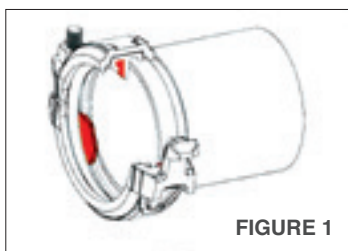
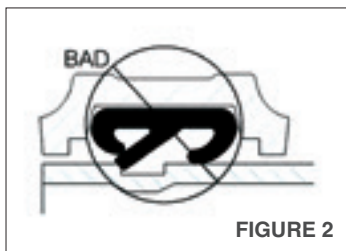

FIGURE 1
FIGURE 2
Step 3. Push the gasket/coupling onto one end of the pipe until the positioning-plate of the gasket is in contact with the end of the pipe (SEE FIGURE 1) the red highlight is the positioning-plate. The pipe end should not cross through the positioning-plate of the gasket. (SEE FIGURE 2).
Step 3. Push the gasket/coupling onto one end of the pipe until the positioning-plate of the gasket is in contact with the end of the pipe. The pipe end should not cross through the positioning-plate of the gasket. (SEE FIGURE 1).